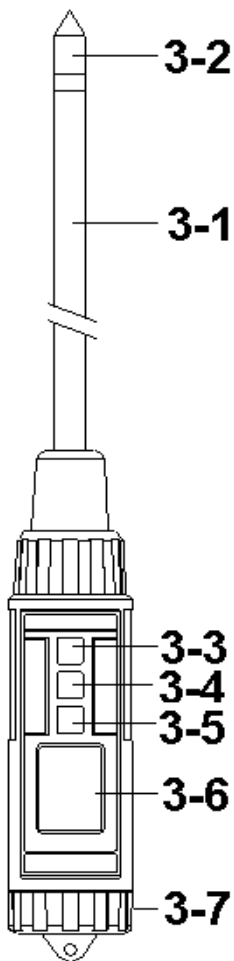

Fig. 1
1) Turn on the meter by pressing the " Power Button " ( 3-3, Fig. 1 ) momentarily.
*\* Press the " Power Button " ( 3-3, Fig. 1 ) momentarily again will turn off the meter.*
2) Insert the " Moisture sensing head " ( 3-2, Fig. 1 ) into the measured soil.
- \* During the measurement, press the " Hold Button " ( 3-4, Fig. 1 ) momentarily to hold the measured value. The LCD will show a " HOLD " symbol.
- 1) The data record function records the maximum and minimum readings. Press the " REC Button " ( 3-5, Fig. 1 ) momentarily to start the Data Record function, shows " REC " on the display.
- a) Press the " REC Button " ( 3-5, Fig. 1 ) momentarily, the " REC MAX " symbol along with the maximum value will appear on the display.
- b) Press the " REC Button " ( 3-5, Fig. 1 ) momentarily again, the " REC MIN " symbol along with the minimum value will appear on the display.
*\* When display shows " REC MAX " or " REC MIN ", press the " Hold Button " ( 3-4, Fig. 1 ) momentarily will delete the max. ( min. ) value, the display will show the " REC. " only and execute the memory function continuously.*
- \* To change the batteries, open ( rotate clockwise direction ) the " Battery Cover " ( 3-7, Fig. 1 ).
- \* Make sure the " Battery cover " (3-7, Fig 1) is secured after changing the batteries.